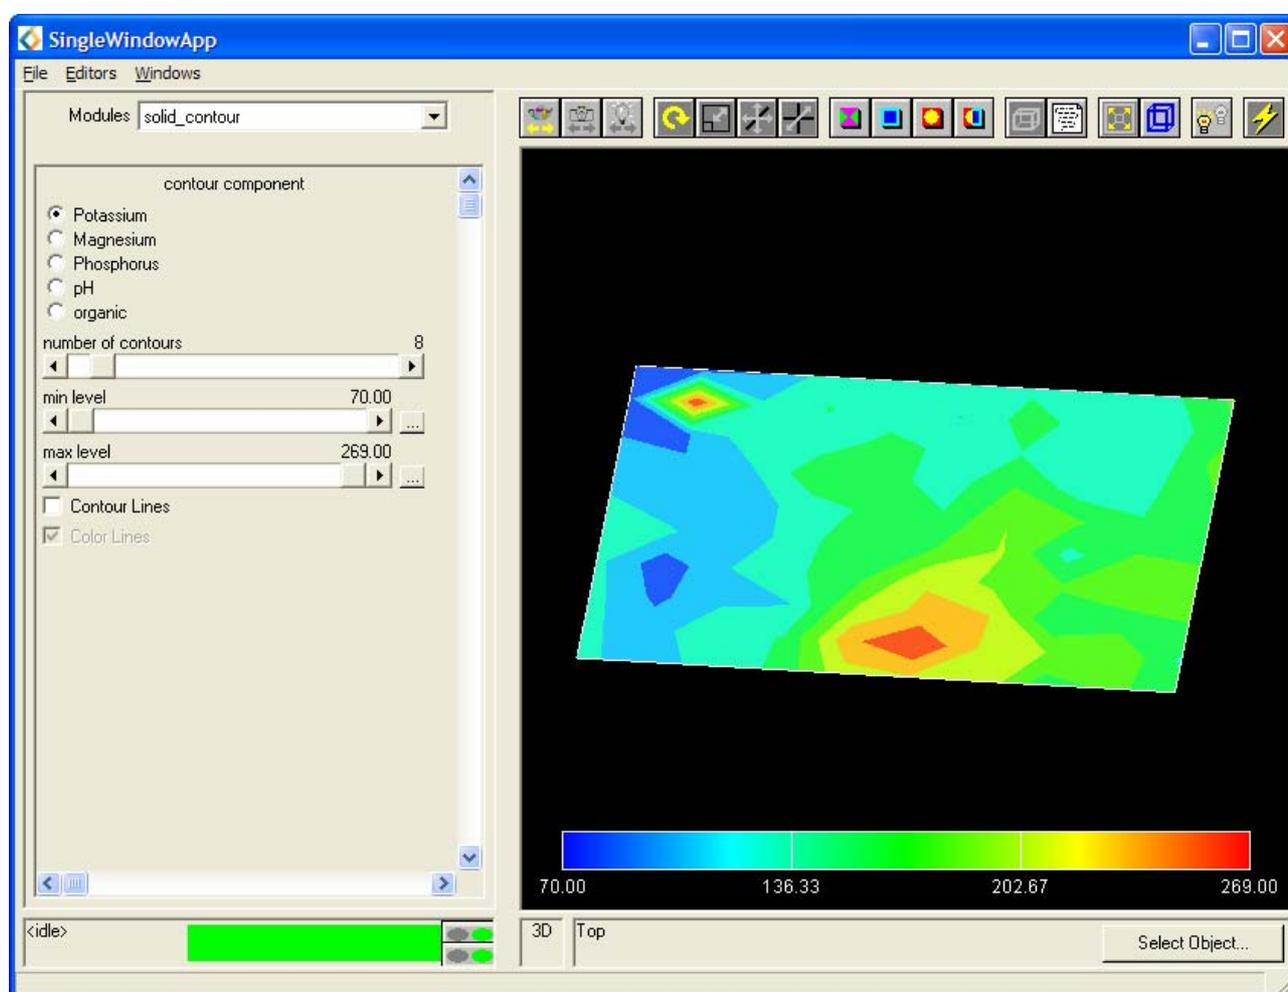

Figure C.45: `solid_contour` Editor Panel and Transformed Image
- Using the **scale**, **rotate** and **translate** icons manipulate the object until the scene appears similar to that shown in Figure C.45.
- Alter these parameters to observe the effects and eventually gain a view similar to that shown in Figure C.45.